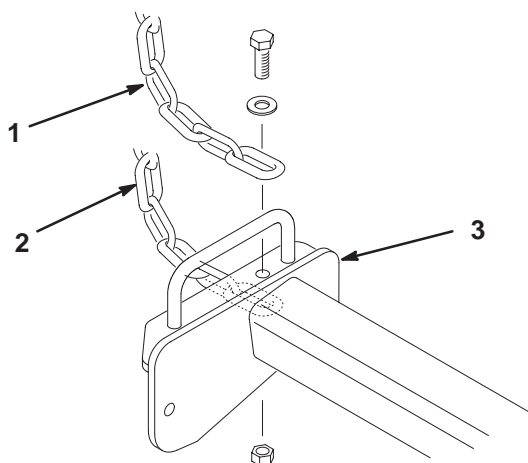

Figure 11
3. Secure a tipper chain to the top of each Reelmaster 2300 carrier frame and to the bottom of each Reelmaster 2600 carrier frame with a capscrew, washer, and locknut (Fig. 11).